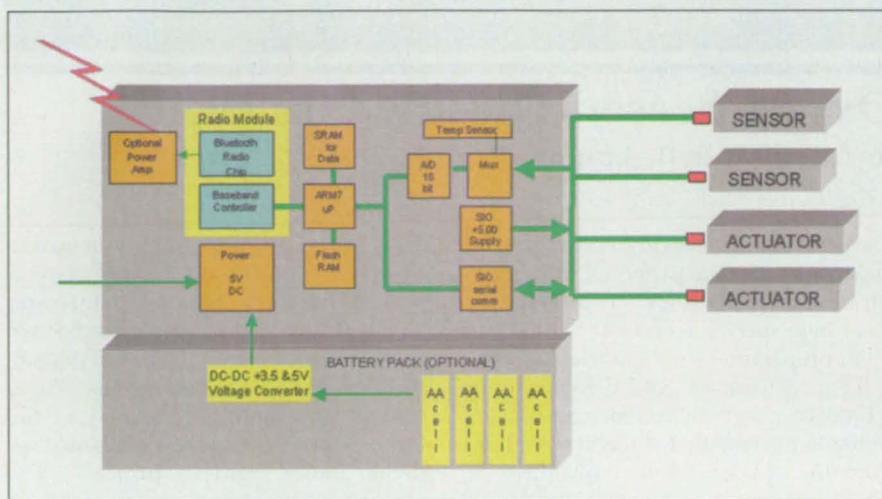

Figure 2: Node Architecture
Figure 2. The Uncertainty of Measurement as a function of pressure altitude was computed for various concentrations of oxygen for a 99-percent confidence level after correction.
Because of a nonlinear response that occurred during operation above 30 kft (9 km), an altitude correction factor was devised. This correction factor was computed in the following procedure: The ratio between (1) the true partial pressure of oxygen (as determined by use of the calibration gases) and (2) the transducer output was determined for each altitude. This ratio was then plotted against altitude, and the data of this plot were fitted with a fifth-order curve. During the flights, the correction factor was computed from the fifth-order curve. This correction factor was then multiplied with the linearly calibrated transducer output to produce an altitude-corrected partial-pressure reading. Normalization of this value by the static-pressure measurement yielded an output volume fraction. On the basis of the t distribution of the corrected readings, the uncertainty was found to remain less than one percent for altitudes less than 60 kft (18 km), as shown in Figure 2.